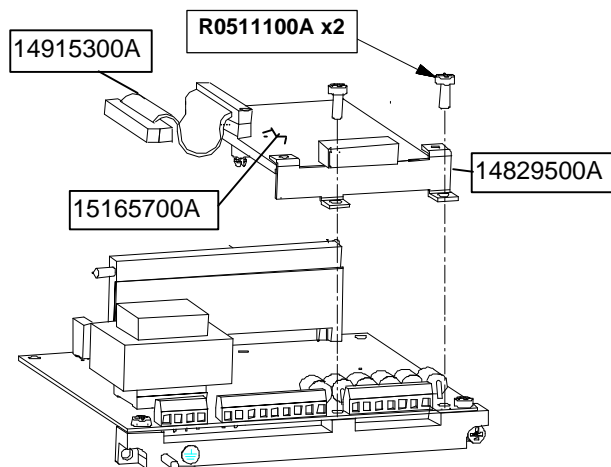

Figure 8-3 Installation in Panel Mount Enclosure
7. Attach the mounting bracket to the Controller PCB with 2 screws (R0511100A). See Figure 8-3.